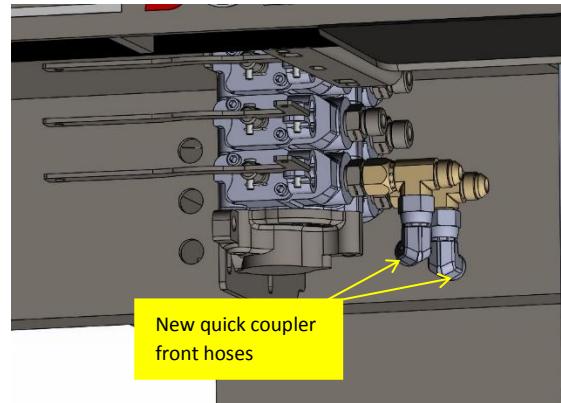

Figure 4
8. Connect two (2) new quick coupler front hoses to the JIC elbows. The elbows will have to be turned to make the elbows and hoses assemble easier. Once all attachments have been made, tighten all fittings to 36-39 lb. ft. Figures 4 & 5